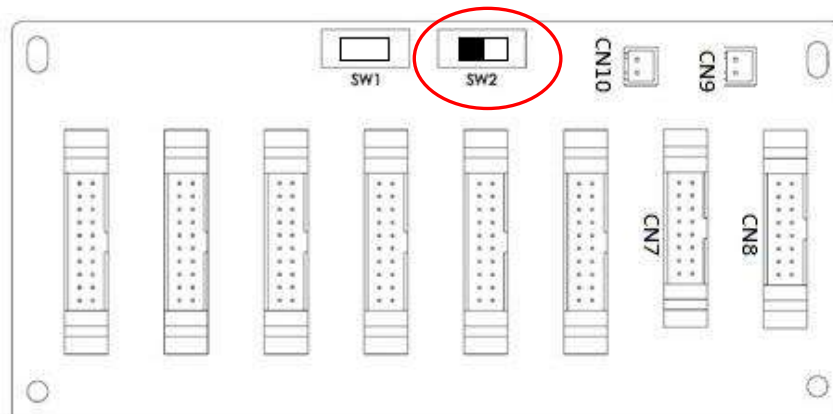

Figure 9-3 Rack 2 SW2 set to the left side
1. The parallel board(s) of the Rack 2, the SW2 must be to set the left side, please refer to the figure 9-3 below.